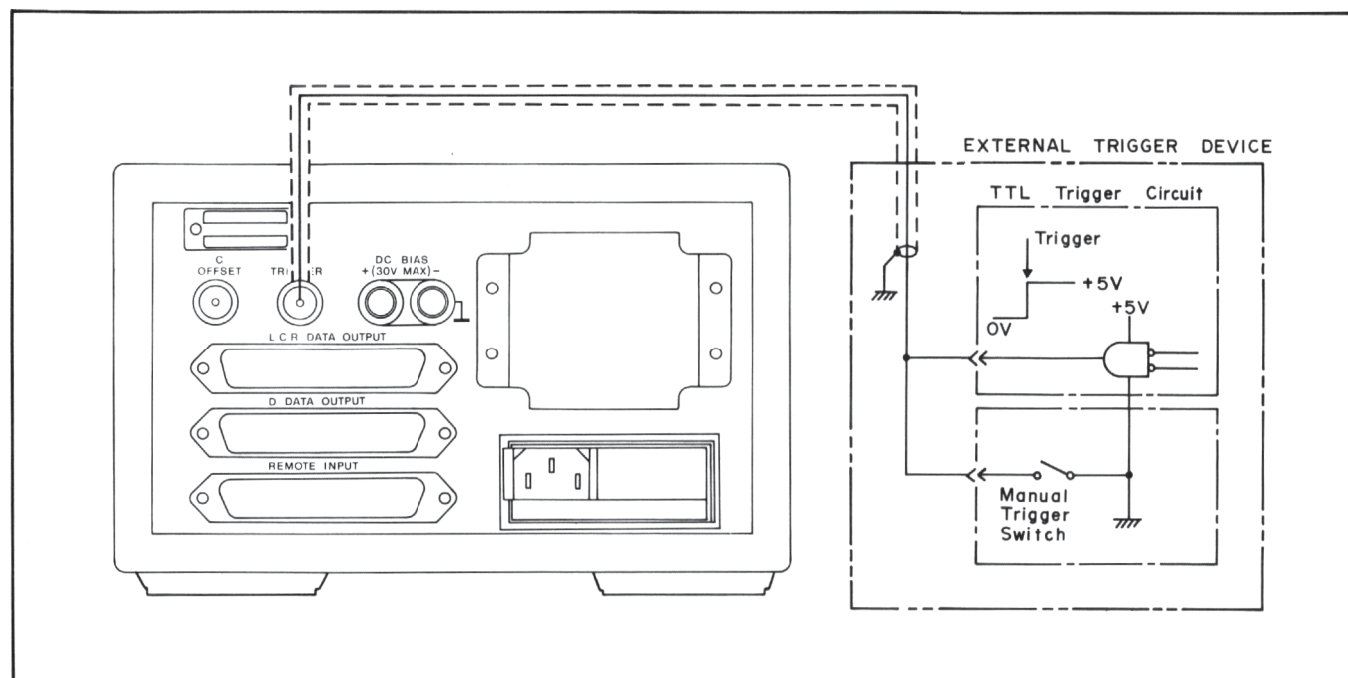

Figure 3-11. External Trigger Circuits.
- c. Set TRIGGER switch to EXT and use MANUAL switch for manual triggering. External trigger at rear panel connector may also be used. See Figure 3-11 for reference. It is recommended that RANGE HOLD be set to ON when measuring multiple samples whose values are about the same.
**3-28.** Figure 3-11 illustrates an example of a trigger circuit device for triggering the 4261A externally via the external triggering connector on the 4261A rear panel. In addition, both manual trigger (by MANUAL pushbutton) and electronic trigger (by TTL level trigger circuit) are also useable. The unit is set for manual triggering by switching TRIGGER switch from INT to EXT (manual) position. In the EXT trigger mode, the 4261A may be triggered by a TTL level signal that is transmitted from low (+0V) to high (+5V) state by an external trigger circuit.